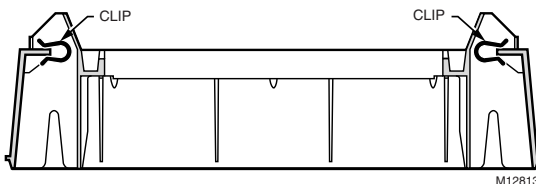

Fig. 3. Position securing clips.
1. Position the securing clips as shown in Fig. 3.